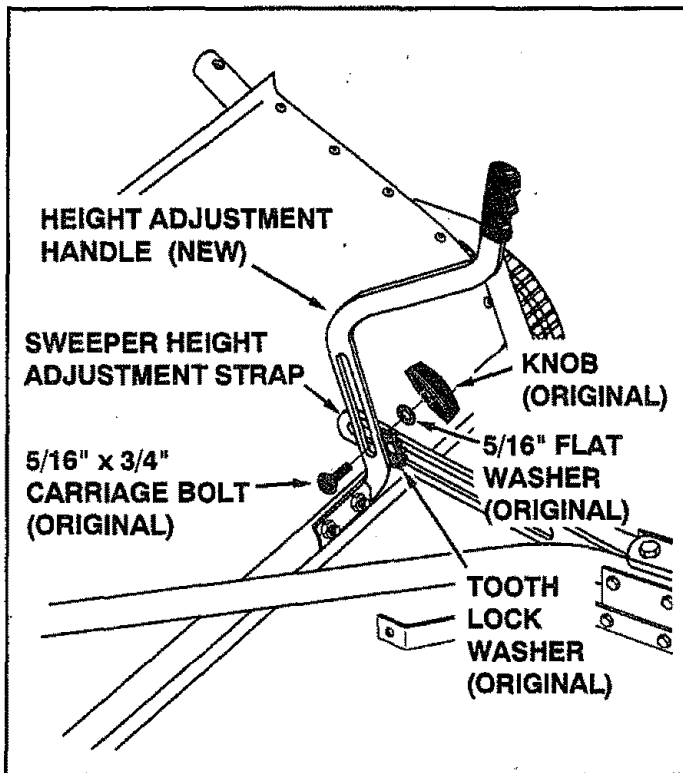

FIGURE 11
- Fasten the sweeper height adjustment strap to the new height adjustment handle, re-using the original 5/16" x 3/4" carriage bolt, tooth lock washer, 5/16" flat washer and knob. Place the tooth lock washer between the handle and the strap. See figure 11.